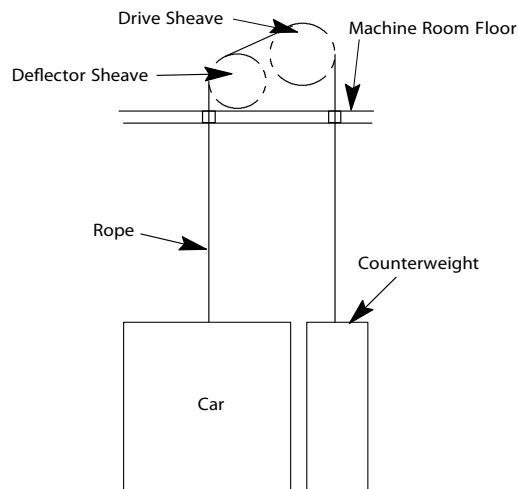

Figure 26 - Typical 1:1 Roping
1. Place the car and counterweight at the middle of the hoistway so that car and counterweight ropes and adjustment nuts can be accessed easily without moving the car. See Figure 26.